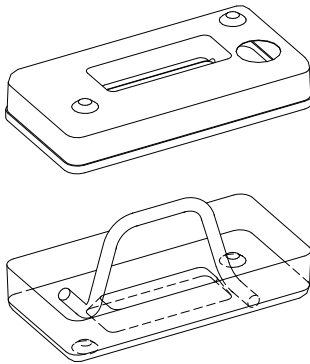

Figure 3-15.
1. Place the Ballast Block handle in the base section of the ballast weight. (This is the section without the filling hole.) This handle can stand upright by itself. Position top section of Ballast Block over base section, push down and snap into position. See Figure 3-15.